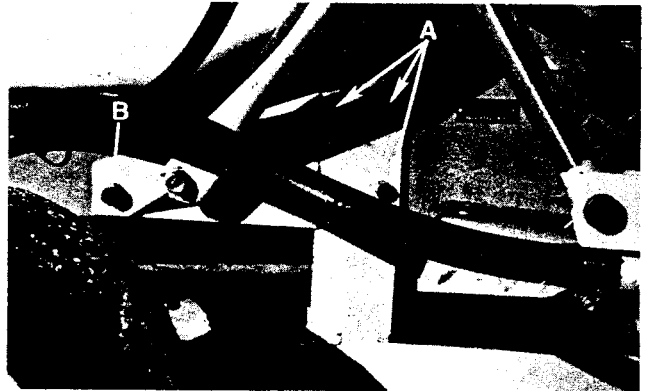

FIG. 8
8. Refer to Fig. 8.
Raise Sub-Frame up in front and hold in place with (6) 3/8" Bolts, Lockwashers and Nuts. (see Fig. 8) Leave these Nuts finger tight only.
Raise rear of Sub-Frame and place U-Bolts over axle and install Lockwashers and Nuts after dropping U-Bolts through holes in rear of Sub-Frame. Now go back to front of sub-frame and install (2) 1/2 x 1" Bolts, Lockwashers and Nuts where tractor shoulder bolts were previously removed. (see B as shown in Fig. 8) Tighten all Nuts and Bolts.